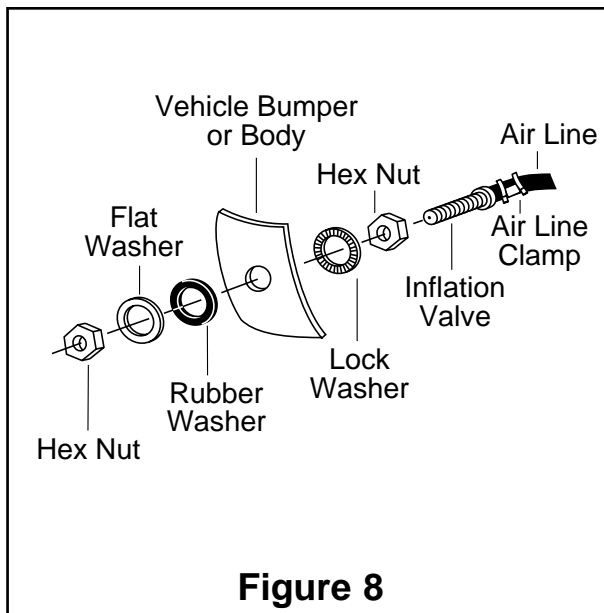

Figure 8
J. Drill a 5/16" hole for inflation valve and mount as in illustration (Figure 8). Rubber washer is for outside weather seal.
G. Drill 5/16" hole for inflating valves and mount as illustrated. Rubber washer is for outside weather seal (Figure 8).